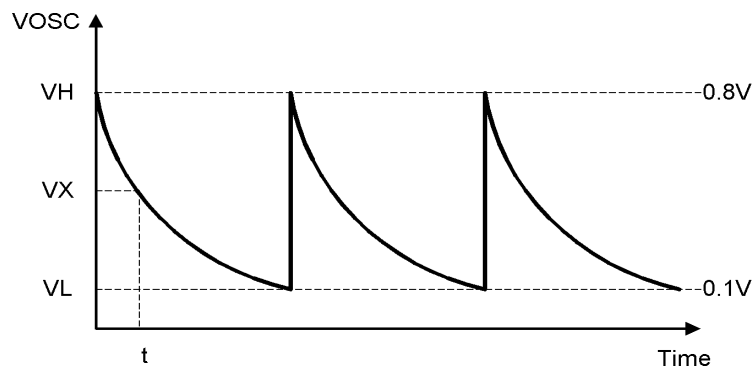

Figure 2 Oscillator Waveform
The oscillation frequency of a sawtooth waveform is determined by the timing capacitor (CT) and the timing resistor (RT) which are connected to the OSC pin. When the voltage of the OSC pin falls to 0.1V, the CT is rapidly charged to increase the voltage of the OSC pin instantaneously. When the voltage of the OSC pin reaches 0.8V, Charging stops, so that CT and RT are discharged to decrease the voltage of the OSC pin. The waveform of the OSC pin is shown as Figure 2.